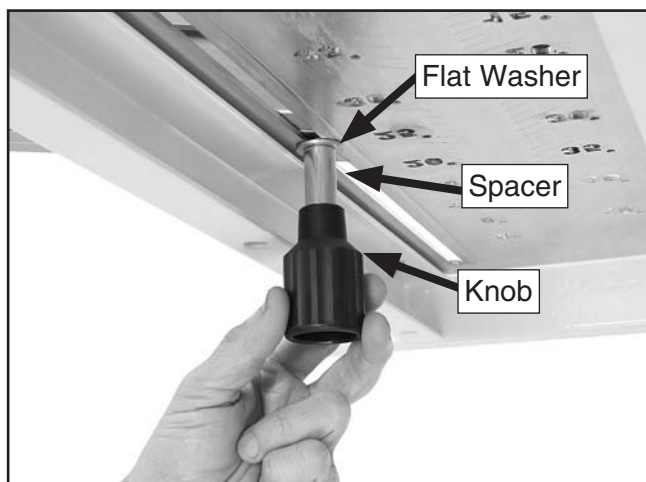

Figure 31. Crosscut fence knob.
27. Thread the M8-1.25 knob with an 8mm flat washer onto the T-bolt to secure the crosscut fence (**Figure 31**).